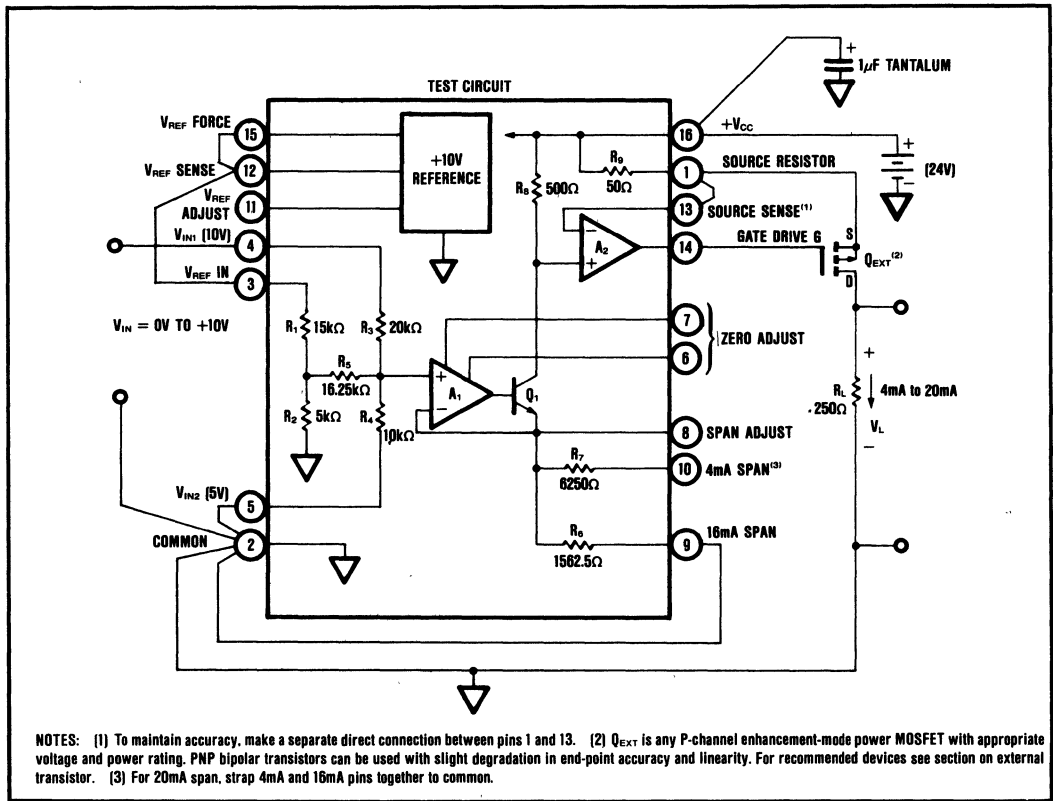

FIGURE 1. Block Diagram of the XTR110 in Basic Connection: 0V to +10V in, 4mA to 20mA out.
For example, assume that the standard configuration of Figure 1 is being used. In this case, $V_{REFIN} = 10V$ and $V_{IN2} = 0V$. The equation now becomes:
A block diagram of the XTR110 is shown in Figure 1. The circuit contains four main functional blocks: (1) a precision resistor divider network (R_1 - R_5), (2) a voltage-to-current converter (A_1 , Q_1 , R_6 , R_7), (3) a current-to-current converter (A_2 , R_8 , R_9 , Q_{LX1}), and (4) a precision +10V reference.
The basic connection of the XTR110 is the standard 0V to +10V input; 4mA to 20mA output configuration is shown in Figure 1.
Connections to the MOSFET are gate drive (pin 14) and source resistor (pin 1). To eliminate errors due to resistance in the connection between pin 1 and the source of the external transistor, connect pin 13 directly to pin 1 as shown in Figure 1.